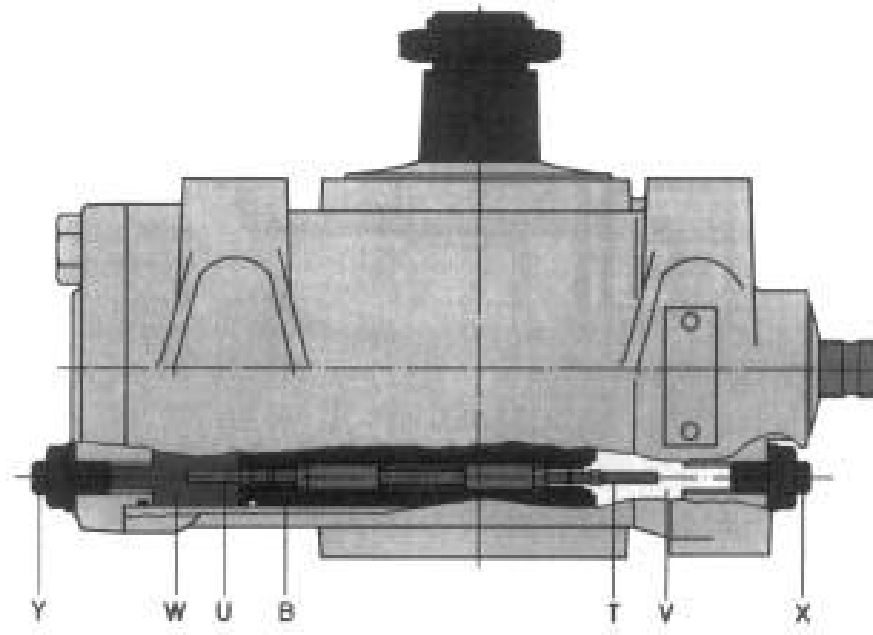
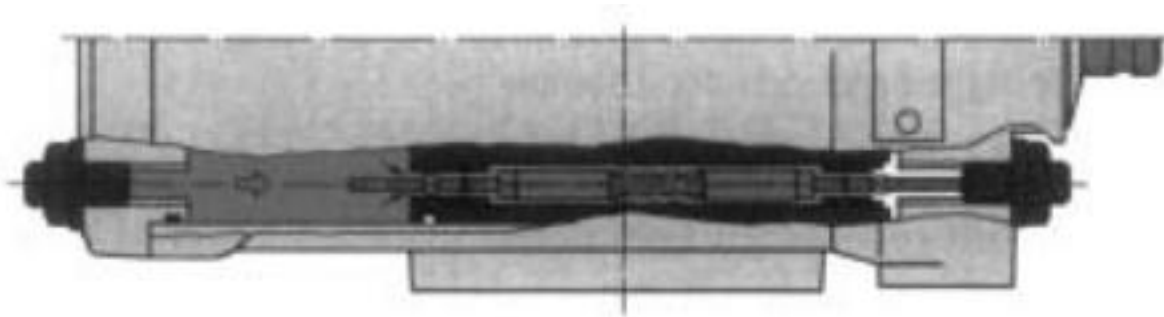

Fig. 11-8 Working principle of the limit valve
Fig. 11-9 Right limit valve open position
- As shown in Fig. 11-8, the left and right limit valves are installed in the piston B. They are actually two check valves composed of the left and right valve stems.
- When the vehicle is running normally or before reaching the limit positions, as shown in Fig. 11-8, both the limit valves are closed. When it turns right and reaches the preset limit position, as shown in Fig. 11-9, piston B moves to the right regulating bolts and pushes the limit valve stem into the piston, the right limit valve is turned open. High-pressure oil from the left piston chamber passes through the left limit valve and the open right limit valve to the right chamber, which is at lower pressure at the moment. The pressure is thus relieved and the boosting vanished. Thus damage will not occur from steering wheel turning to the limit position. Working principle of the left position limit valve is the same as the right limit valve. The limit valve must be adjusted after the steering gear is installed onto the automobile.